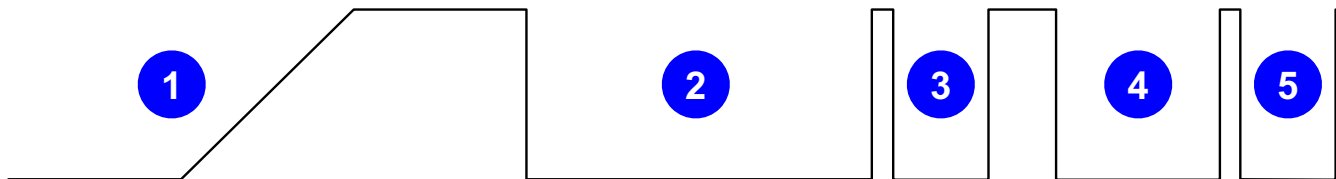

Figure 9-1. Power Up Best Practice
Figure 9-1 illustrates the best practice for dealing with initial power on ramps, shown as (1) in the figure, that may be long in duration. The host should issue a “hard” reset, (2), of > 5 ms, which resets the device and generate a presence delay and presence pulse, (3). After that, a “soft” reset of approximately 480 μ s can be applied, (4), which also generates a high presence delay and low presence pulse, (5).